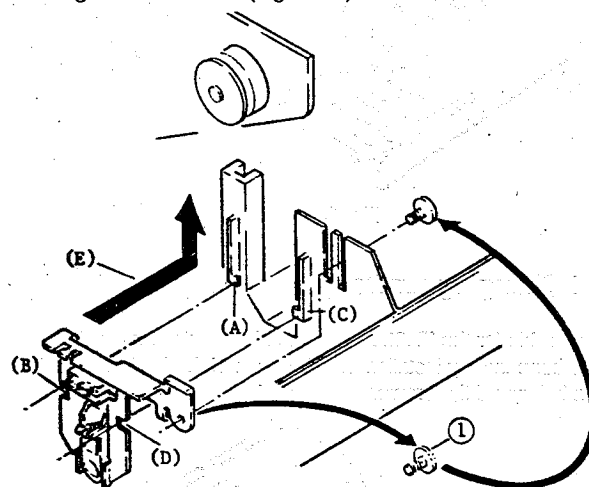

Fig. 14-5
5) Installing the sensor unit (Fig. 14-5)